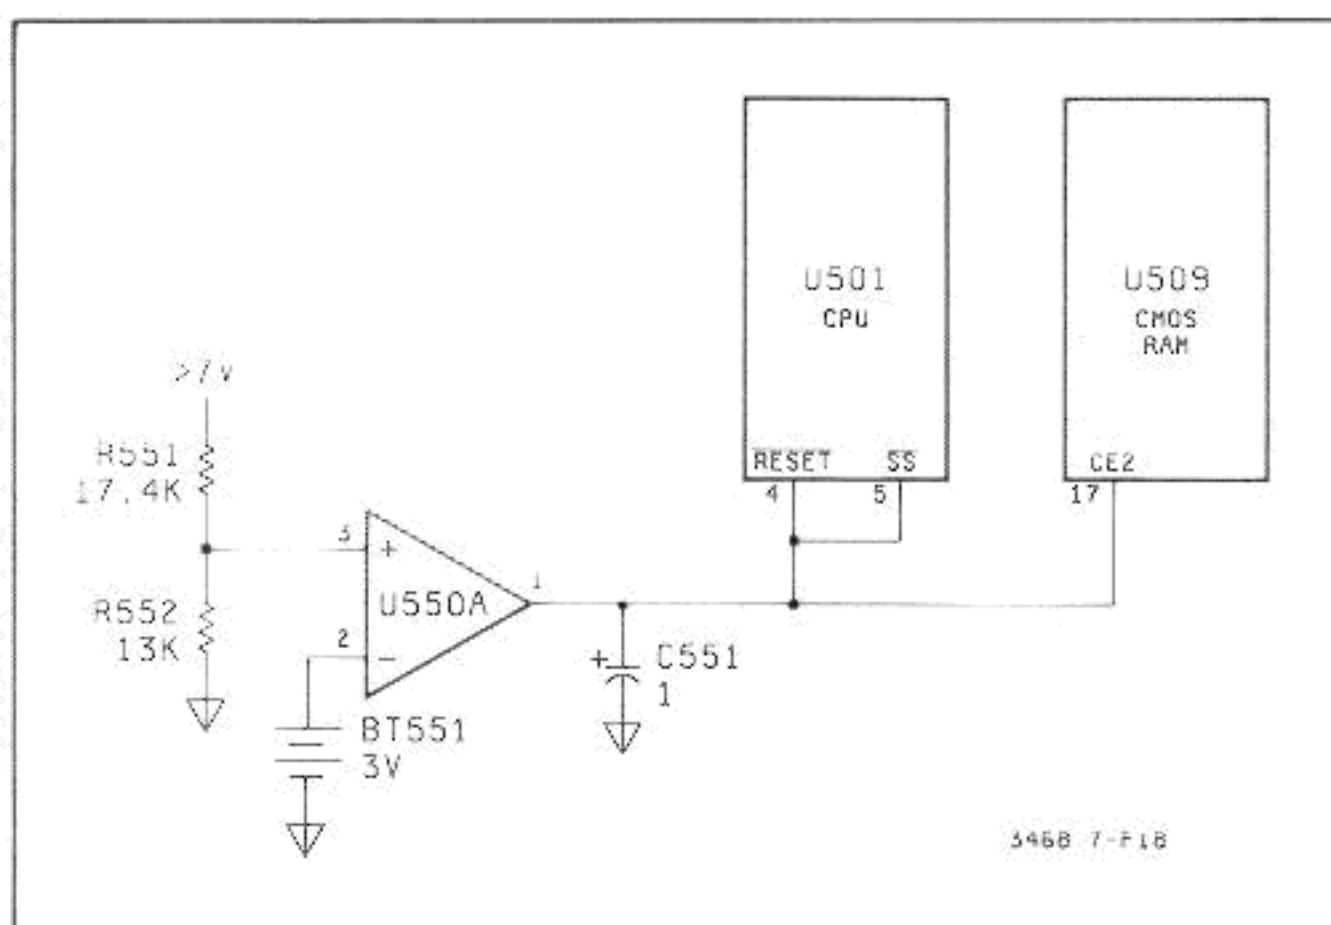

Figure 7-F-18. Power-On Circuitry
a. **Power-On Circuitry.** Refer to Figure 7-F-18 or Schematic 3. The Power-On Circuitry resets the CPU when the 3468A is turned on and when the $>7V$ power supply (raw supply for the $+5V$ supply) is low. The step by step operation is as follows: